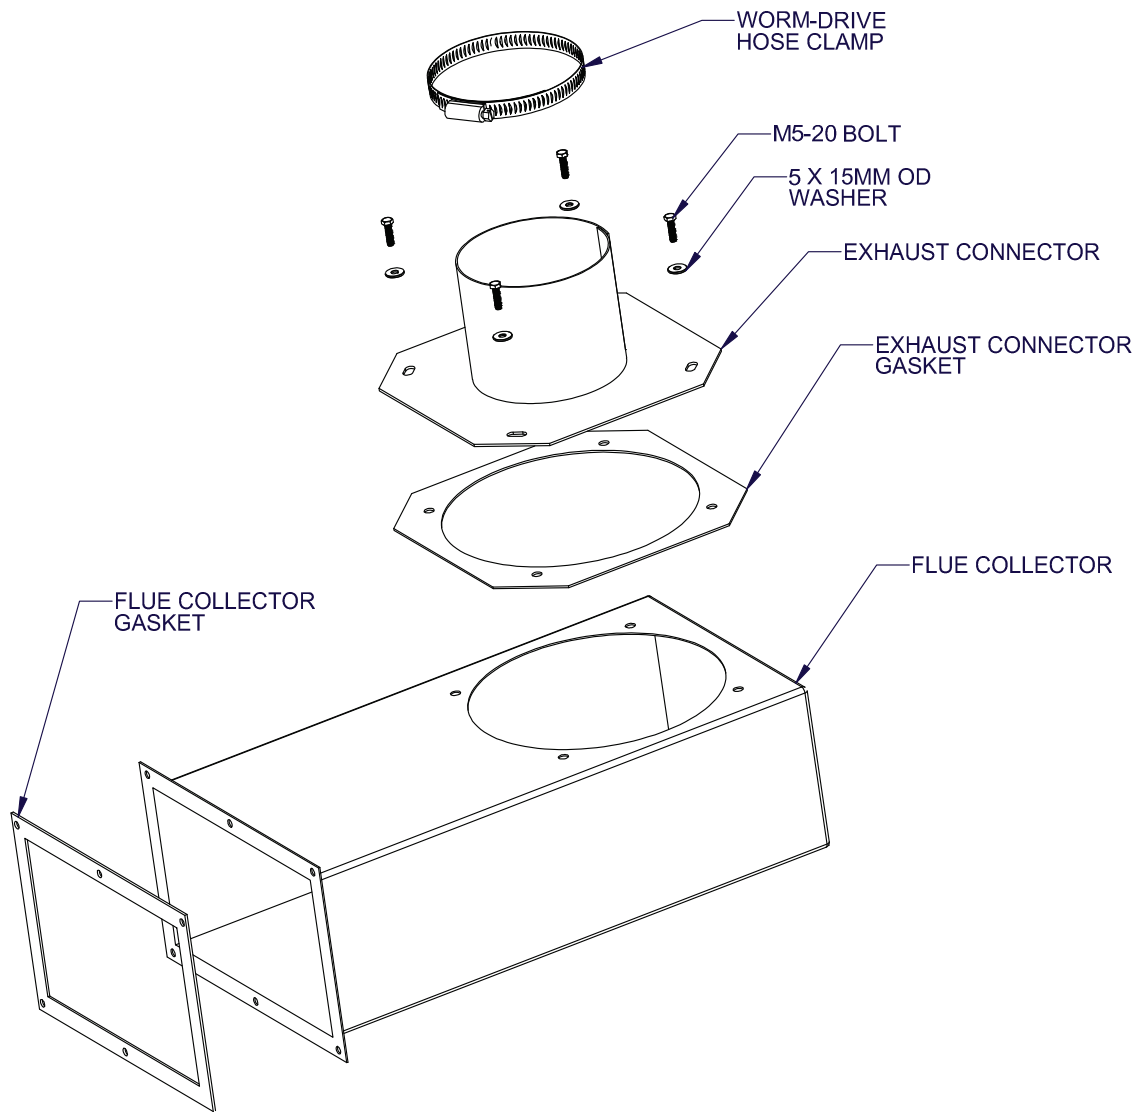

FIGURE 11
2. Install vent pipe beginning at the boiler vent connector and work toward the vent cap. To attach the exhaust connector to the flue collector, use the screws and the gasket supplied inside the plastic bag. Use a cross-tip (Phillips) screwdriver at least 12 inches (300 mm) long. See Figure 11.